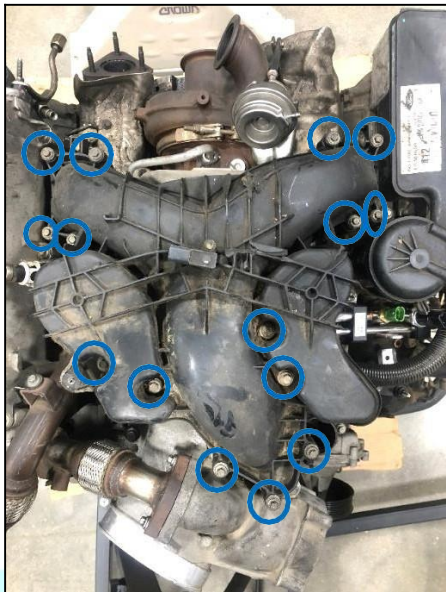

Figure 1: Intake removal
- There are a total of 15 bolts to be removed, each measuring 8mm (see Figure 1). Utilize the appropriate sockets to facilitate removal.